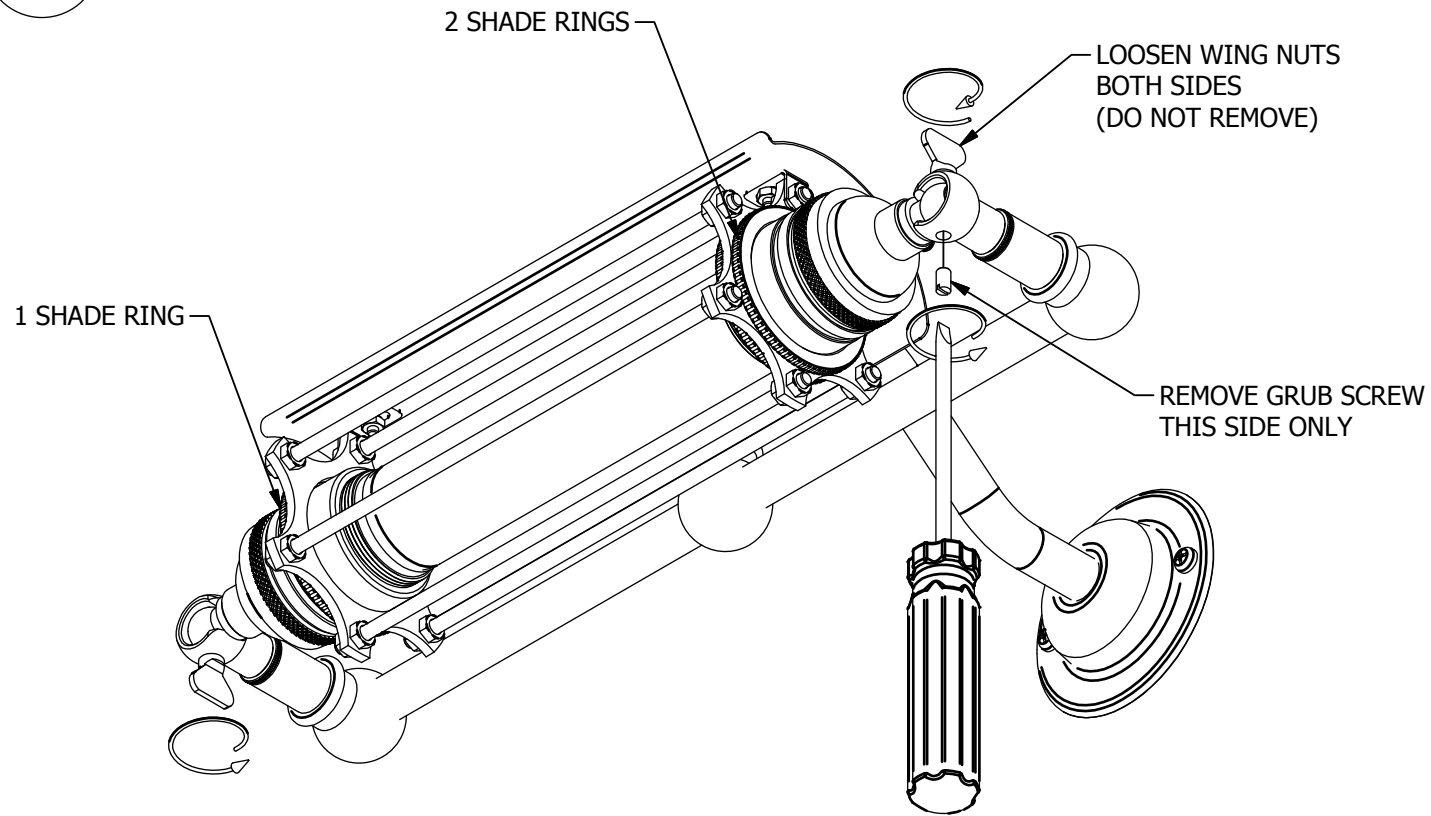

Figure 1.
Note, there is no need to completely remove the wing nuts. (Figure 1.)
- 3) Using a small screwdriver, remove (only) the grub screw next to the side of the cage with the two shade rings fitted. (Figure 1.)